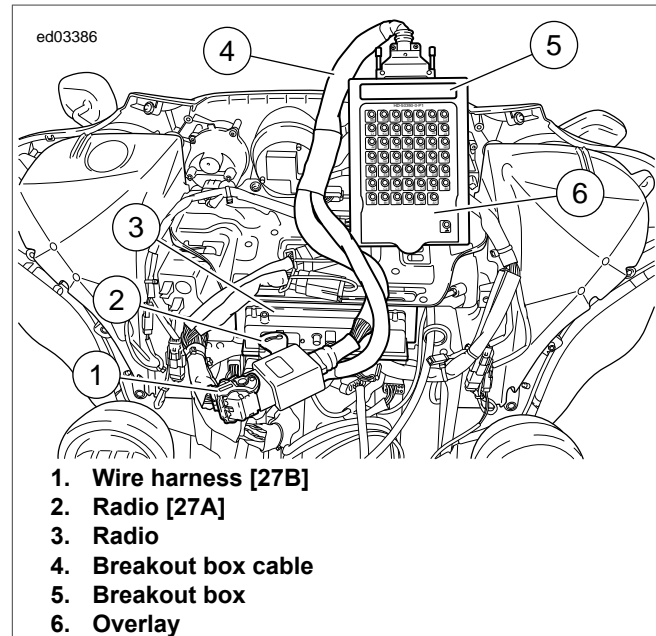

Figure 1-11. Radio Breakout Box Connection
3. See Figure 1-11. Connect BREAKOUT BOX (Part No. HD-50390-1) and BCM CABLE (Part No. HD-50390-2) to connectors.